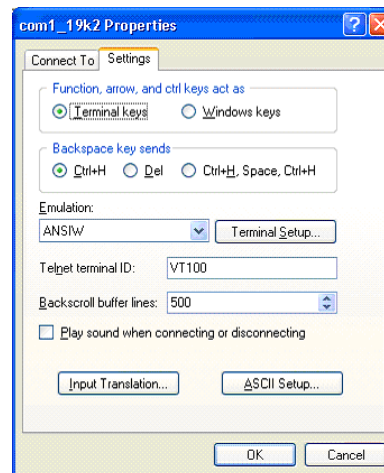

Figure 5-9: HyperTerminal Settings Tab
9. Click on the **Settings** tab (Figure 5-9).
13. Click the **ASCII Setup** button (Figure 5-9).